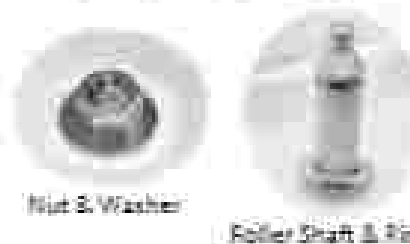

Figure 9 - Roller Hardware
3. To remove the roller shaft, remove the 9/16" nut and washer from the roller support, and remove the support and remaining triangular ring. See Figure 9.